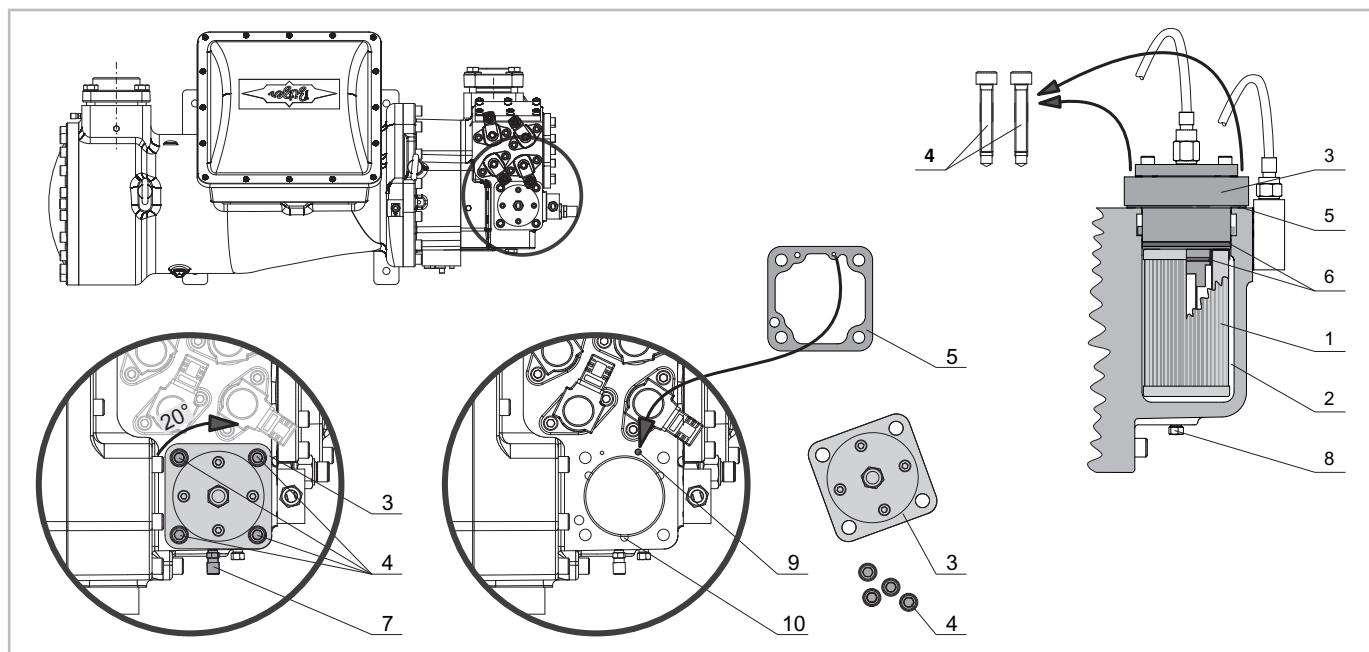

Fig. 13: HS.85: Replace oil filter
- HS.85: in front of the oil filter chamber, for replacement of the internal oil filter (see figure 13, page 23).
**HS.85: Replacing the internal oil filter (see figure 13, page 23)**